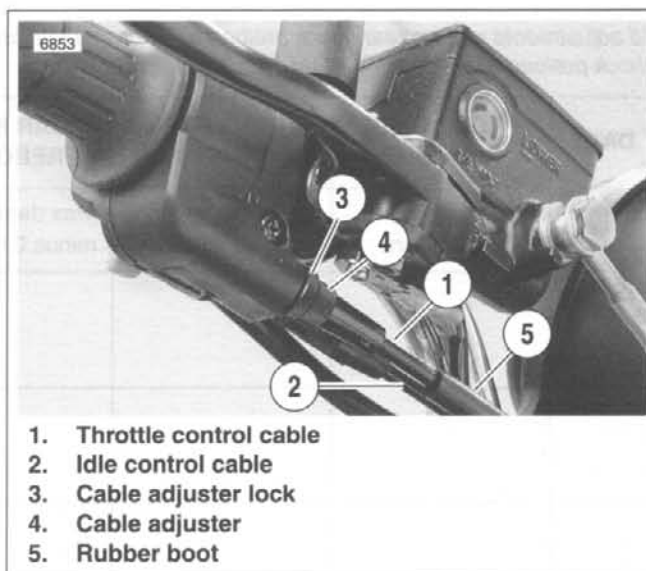

Figure 2-126. Throttle Control Cables
1. See Figure 2-126. Slide rubber boot (5) off the cable adjusters (4). Loosen cable adjuster lock (3) on each adjuster.